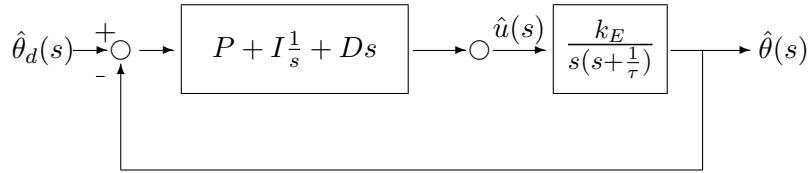
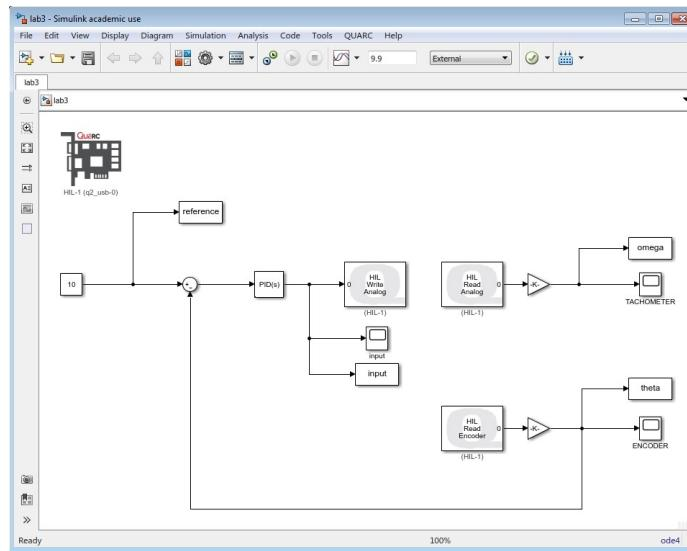

Figure 5.1: PID control system
Figure 5.3: Simulink model for the implementation of PID control
In this lab you will be examining the effects of feedback on system performance. In particular, you will design a control, R_C , for the motor using the principles of PID control as shown in Figure 5.1.
1. Using the Simulink model shown in Figure 5.3, and identify the corresponding components from Figure 5.1. i.e. what block acts as the plant, what is the reference trajectory, input, output, etc.
1. Prepare a Simulink model to implement a PID controller as shown in Figure 5.3. *Modify your model from lab 1 or 2.* The PID block can be found in the Simulink
2. Set the desired angle to 10 radians. The desired input is entered as shown in Figure 5.3 in the **Constant** block. Remember to use the appropriate gain values from Table C.1 for the encoder and tachometer to show results in radians. Do not forget to change the **solver** to **ode 4** in **Configuration Parameters** (**Ctrl+E**). Build and run the Simulink model using only the proportional term. Comment on the effects of using various values of P . In particular, comment on the overshoot, rise time, settling time, and the steady-state error for different values of P , and be sure to tabulate this data (a table in Excel is an efficient way to do this). Use at least three different values of P .